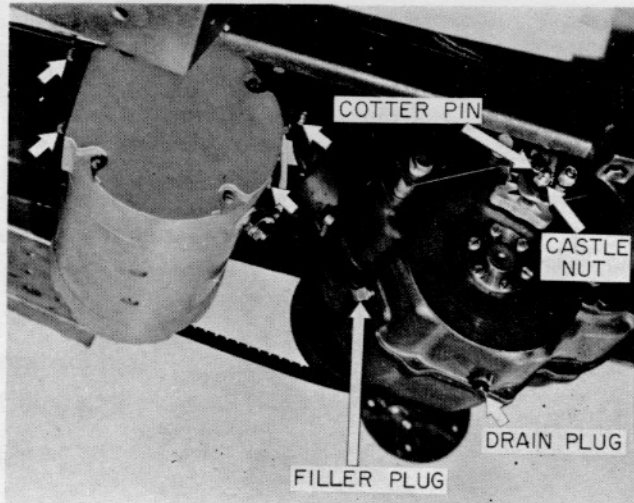

Figure 11. Brake, Transaxle, and Motor Mounting
After 100 operating hours, the transaxle filler plug should be removed and the fluid level checked (see Figure 11). The oil level should be to the bottom edge of the filler hole. If necessary replenish with approved axle fluid only, i.e., SAE EP90.
1. Loosen four carriage bolts holding motor plate. Insert a 1/4" wedge under the forward part of the motor plate, and retighten bolts finger tight (see Figure 11).
A fully depressed brake pedal or an engaged parking brake should prevent the tractor from rolling on average hillsides. If the brake does not perform satisfactorily, the following adjustment may be made: (See Figure 11.)